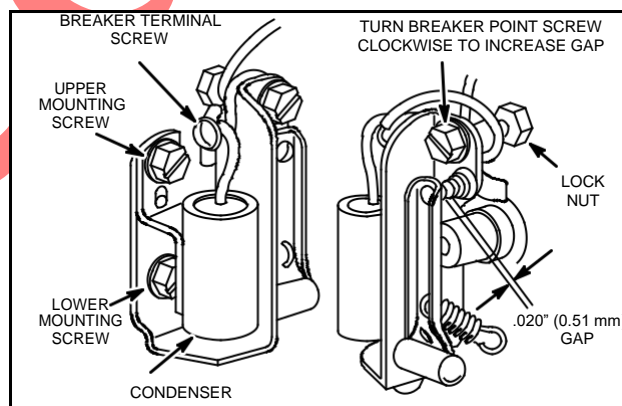
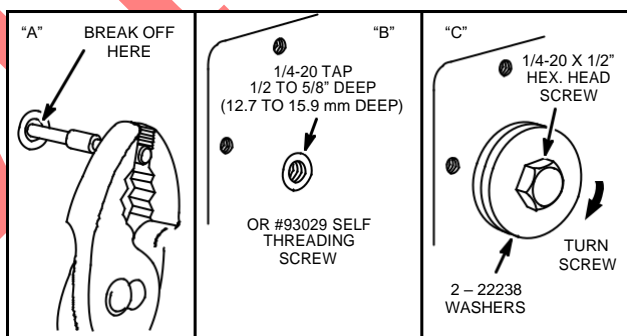
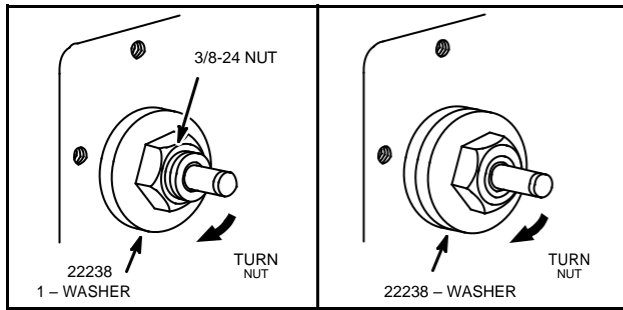

Fig. 57 – REMOVING BREAKER POINTS
Fig. 60 – REMOVING BUSHING AND PLUNGER
Fig. 64 – INSTALLING BUSHING AND PLUNGER
4. Loosen lock nut and turn point adjustment screw counterclockwise to remove breaker points, Fig. 57.
Remove breaker box cover, condenser, and breaker assembly, Fig. 57. Pull breaker plunger out as far as possible. Use a pair of pliers to break plunger off as close to bushing as possible, Fig. 60, Ill. "A". Tap plunger bushing with a 1/4-20 tap or self-tapping screw, Part #93029 1/2 to 5/8" (13 to 16 mm) deep, Fig. 60, Ill. "B".
Use a 1/4-20 x 1/2" long hex head screw and two spacer washers, Fig. 60, Ill. "C" to pull bushing out of the cylinder. The bushing will be free when it has been pulled 5/16". (7.9 mm) CAREFULLY remove the bushing and broken plunger. DO NOT allow the plunger or chips to fall into the crankcase.
Remove breaker box cover, condenser, and breaker assembly, Fig. 57. Place a thick 3/8" inside diameter washer, such as Part #22238, over the end of bushing and screw on a 3/8-24 nut, Fig. 64, Ill. A. Tighten nut to pull bushing. After the bushing has moved about 1/8", remove the nut and put on a second washer, Fig. 64, Ill. B. Reinstall nut and continue to turn nut until bushing is free.